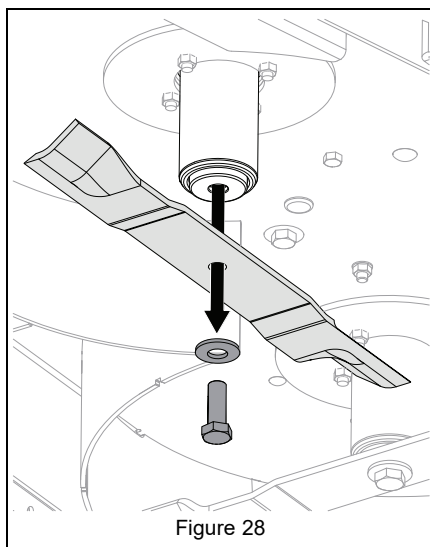

Figure 28
3. Remove and retain hardware securing blades to spindles and remove blades. See Figure 28.
See Figure 28.